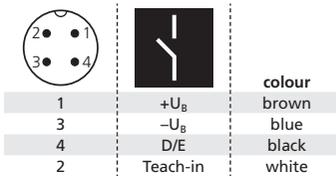

Fig. 1: Pin assignment with view onto sensor plug and colour coding of the microsonic connection cables
- ➔ Connect a connection cable to the M12 device plug, see Fig. 1.